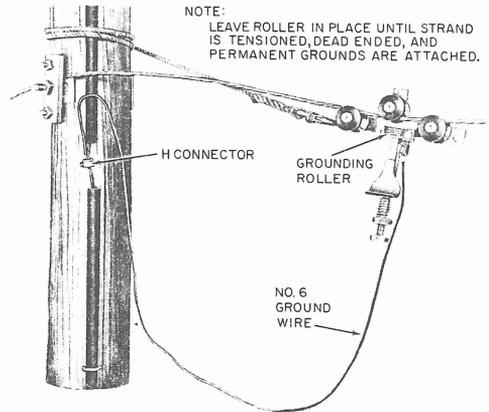

Fig. 19—Using a B Ground Roller With Stationary Reel
4.02 When strand is placed from a stationary reel, use a B grounding roller as shown in Fig. 19. (The B grounding roller is covered in Section 081-410-106.) Place the rollers at intervals of 1500 feet or less and at power crossings.